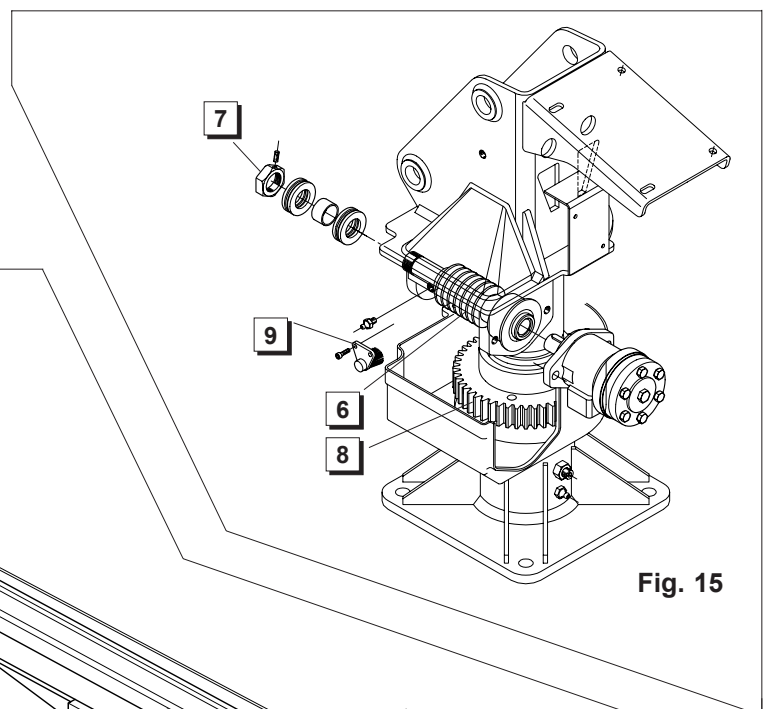

Fig. 15
9.4.4 Wormgear assembly control (Fig. 15)